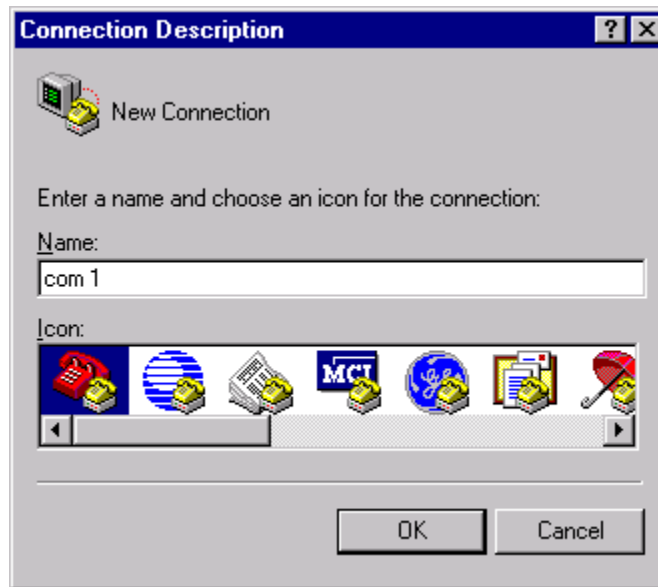

Figure 6 “Connection Description” Window
- 3 A window will appear as in Figure 6. Enter COM 1 in the name box. Press the OK button.